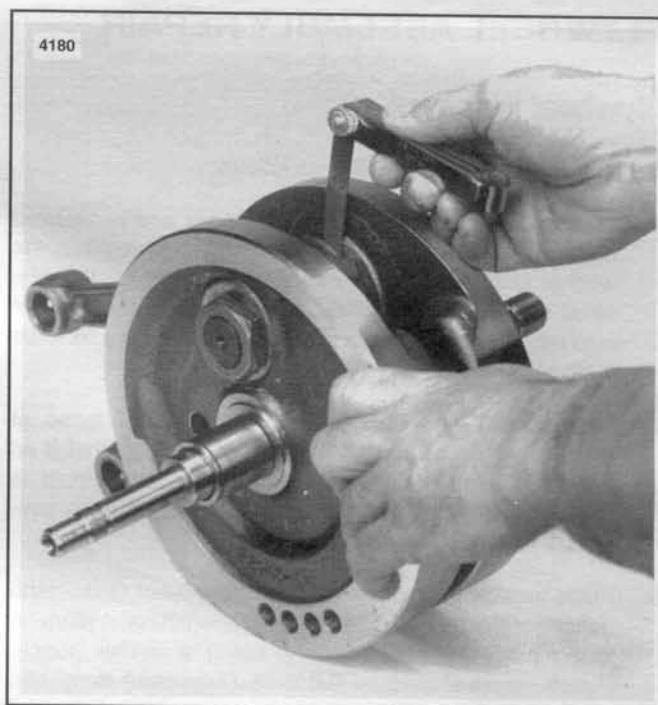

Figure 3-75. Checking Connecting Rod Side Play
5. See Figure 3-75. Check connecting rod side play with thickness gauge. If it is greater than tolerance shown in engine SPECIFICATIONS, tighten crank pin nuts until within, but not exceeding torque limits. Insufficient play between rods and flywheel face is caused by one of the following conditions: